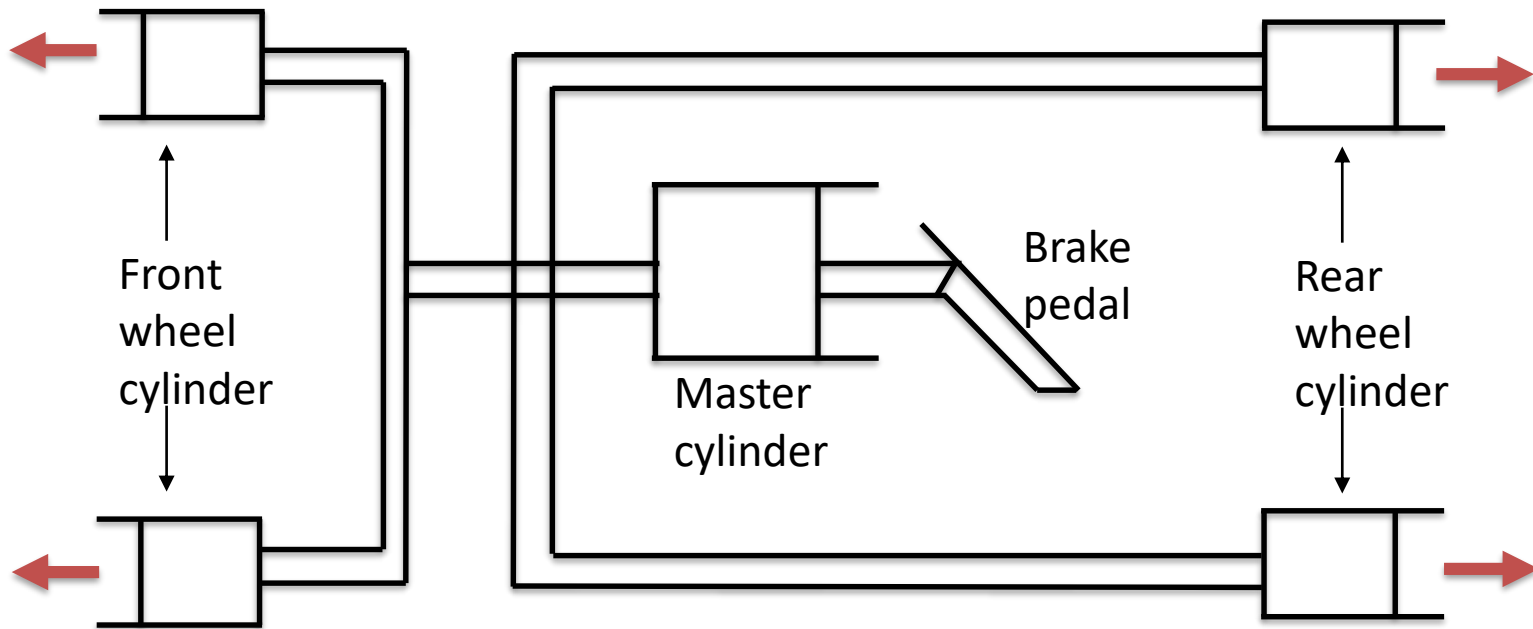

Figure 1 Mechanism of Hydraulic Brake System
- Figure 1 shows the basic components of hydraulic brake system.